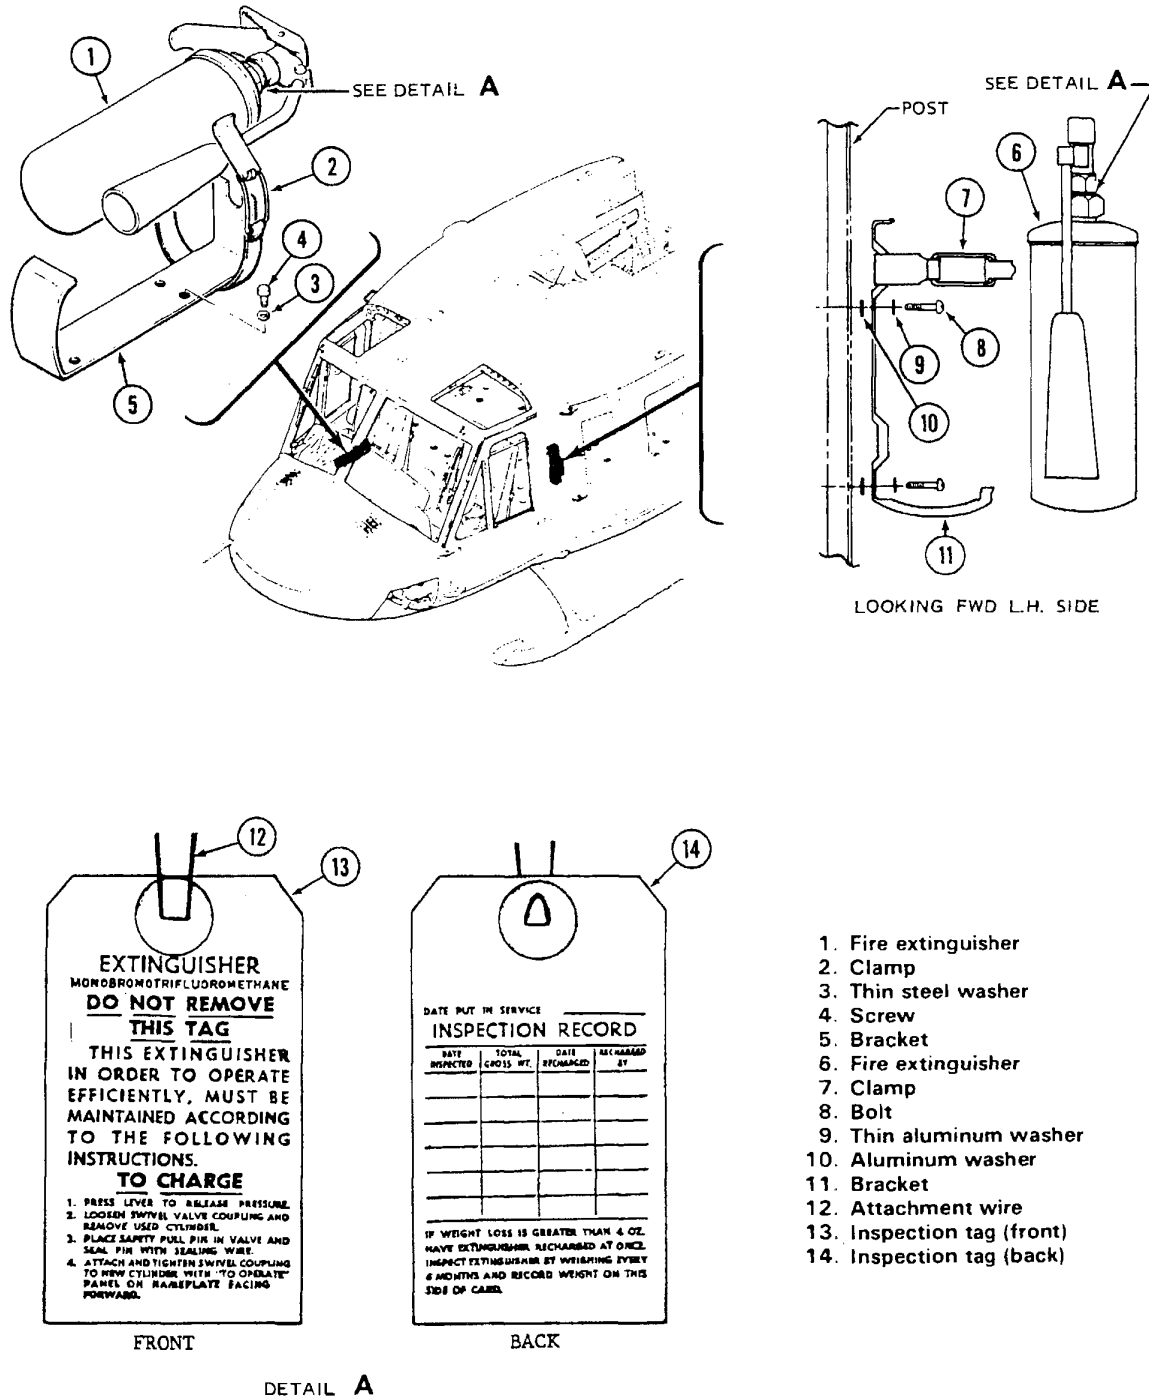

Figure 26-4. Portable Fire Extinguishers and Brackets
Two hand-held, portable fire extinguishers are installed in quick release brackets at the locations illustrated in Figure 26-4. These extinguishers are filled with monobromotrifluoromethane extinguishing agent.
26.11.1.1 Release clamp (7, Figure 26-4) and remove fire extinguisher.
26.11.2.1 Inspect fire extinguisher (6, Figure 26-4) for state of charge by weight (or by visual indicator, if installed).
26.11.4.1 Position bracket (11, Figure 26-4) in position with washers (10) between bracket and mounting surface.